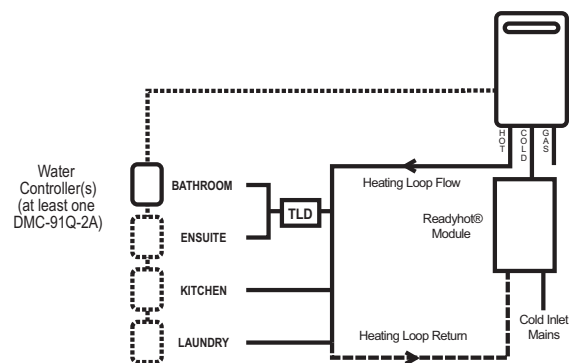

Fig.5. - Not a 50°C Appliance.
*If the appliance is NOT marked to state that it delivers water not exceeding 50°C, or your local regulations require installation with a Temperature Limiting Device, then the installation should be in accordance with Fig. 5.*